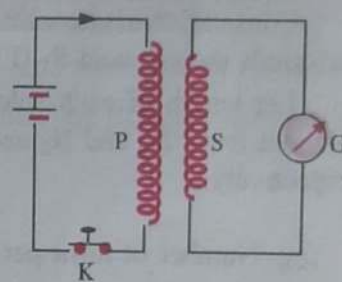

Figure 28
Consider a coil connected to a battery through a key (K). This coil is called **primary coil** (P). Another coil placed near the primary coil and connected to the galvanometer is called **secondary coil** (S) (Figure 28). When key (K) is pressed, galvanometer shows a deflection.